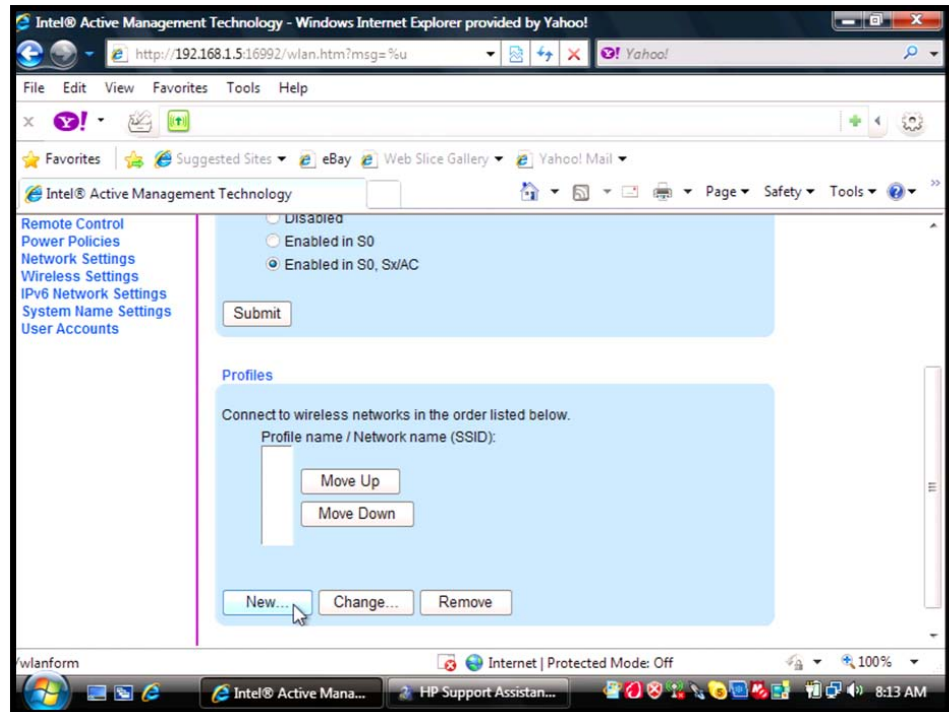

Figure 19. Intel AMT Wireless Settings, Profiles screen
- iii. In the Profiles field box (Figure 19), click **New** to create a new wireless profile.